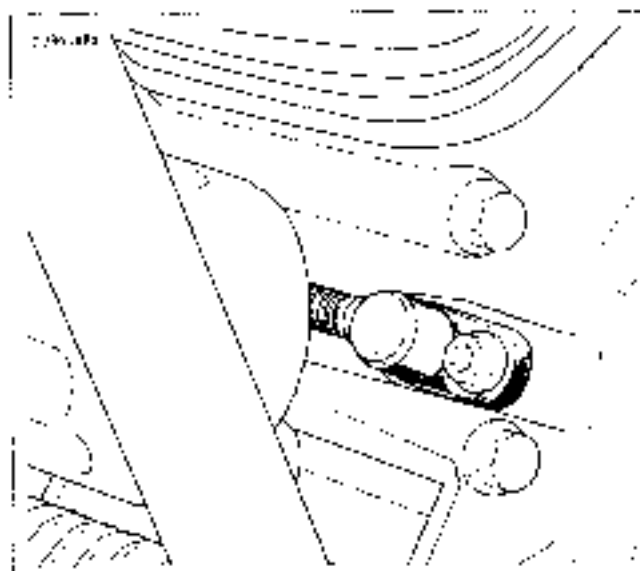

Figure 8-16. Installed CKP Sensor
2. See Figure 8-16. Install new CKP sensor with screw and captive washer. Tighten screw to 90-120 in-lbs (10.2-13.6 Nm).